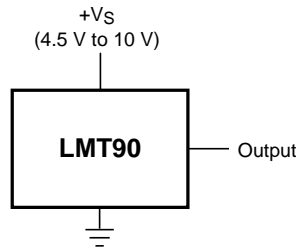

Figure 14. Full-Range Centigrade Temperature Sensor (–40°C to 125°C)
Unless otherwise noted, these specifications apply for $V_S = 5 V_{DC}$ and $I_{LOAD} = 0.5 \mu A$, in the circuit of Figure 14. All limits $T_A = T_J = 25^\circ C$, unless otherwise noted.
- (1) Limits are specific to TI's AOQL (Average Outgoing Quality Level).
- (2) Accuracy is defined as the error between the output voltage and 10 mV/°C times the device's case temperature plus 500 mV, at specified conditions of voltage, current, and temperature (expressed in °C).
- (3) Non-linearity is defined as the deviation of the output-voltage-versus-temperature curve from the best-fit straight line, over the device's rated temperature range.
- (4) Regulation is measured at constant junction temperature, using pulse testing with a low duty cycle. Changes in output due to heating effects can be computed by multiplying the internal dissipation by the thermal resistance.
- (5) Quiescent current is defined in the circuit of Figure 14.
- (6) For best long-term stability, any precision circuit will give best results if the unit is aged at a warm temperature, and/or temperature cycled for at least 46 hours before long-term life test begins. This is especially true when a small (Surface-Mount) part is wave-soldered; allow time for stress relaxation to occur. The majority of the drift will occur in the first 1000 hours at elevated temperatures. The drift after 1000 hours will not continue at the first 1000 hour rate.